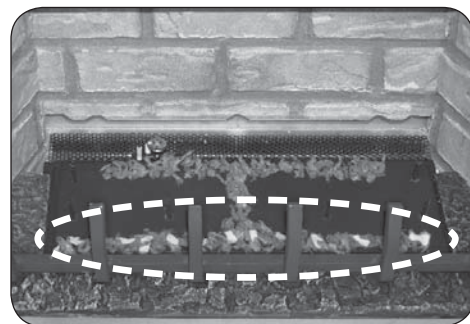

Fig. 31-2 D1-25: Place platinum embers
2. Separate the platinum embers into small pieces and evenly place them along the very front of the burner / glowing embers as shown in Fig. 31-2.